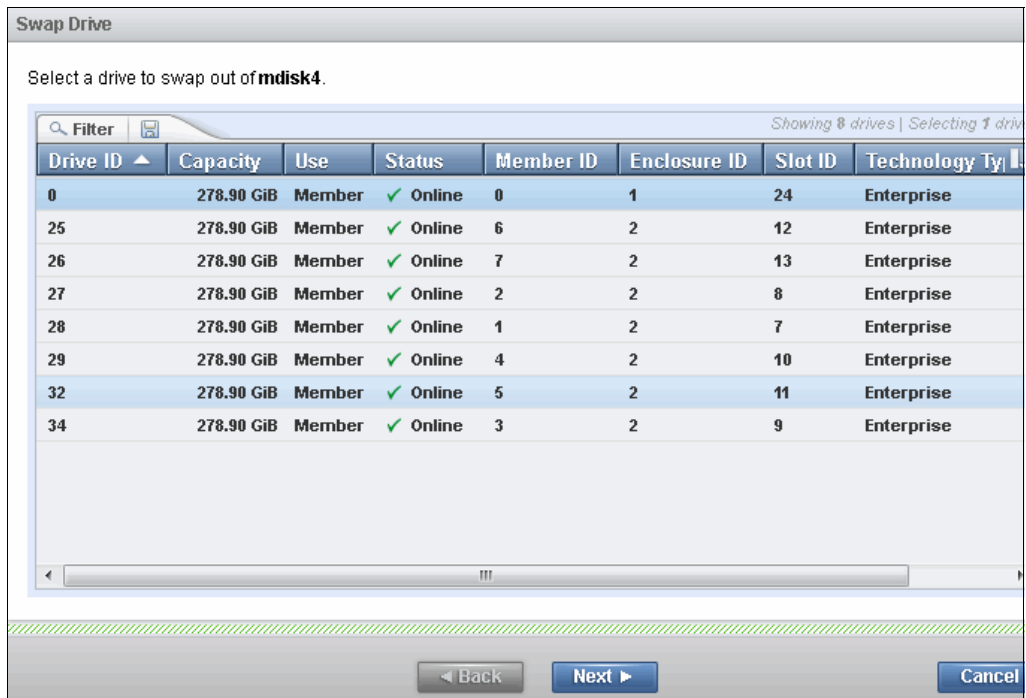

Figure 7-45 MDisk swap drive: Step 1
- ii. In the Swap Drive window, select the member drive that is to be replaced (as shown in Figure 7-45) and click **Next**.